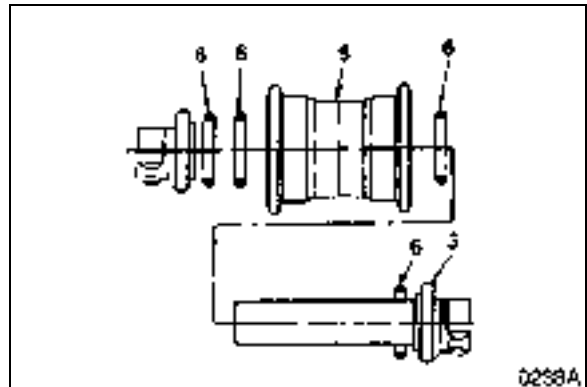

Figure 36
4. Insert group seals (6, Figure 36) into the roller (5) and collar (3).